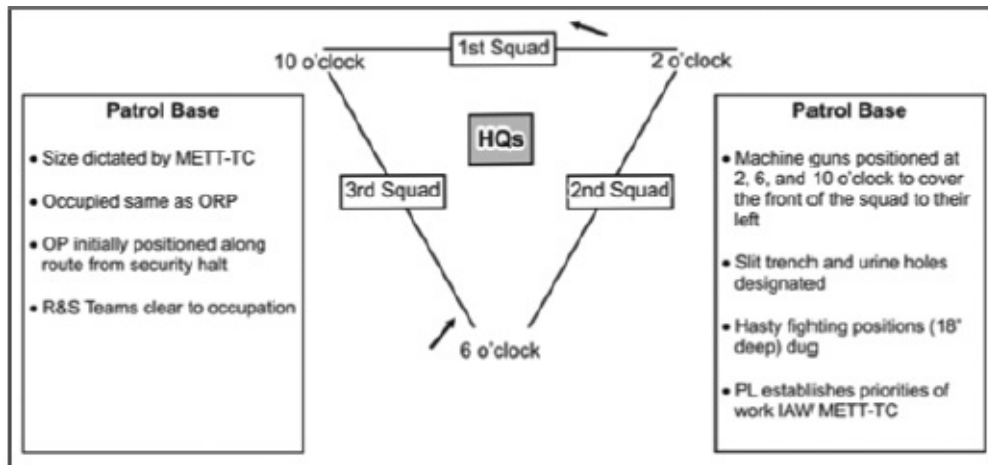

Figure 3-8. Patrol base
(5) *Occupation.* See Figure 3-8.